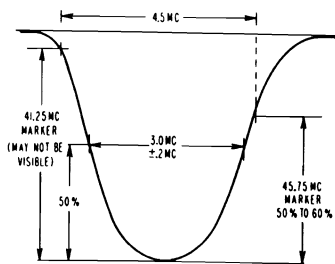

Fig. 3 IF CURVE
5. The IF curve now obtained should be checked against the ideal response curve (see figure 3). Maintain sweep output at 3VPP as alignment progresses. Keep markers low. A reduction in sweep output should reduce curve amplitude without appreciably altering the shape of the response curve.